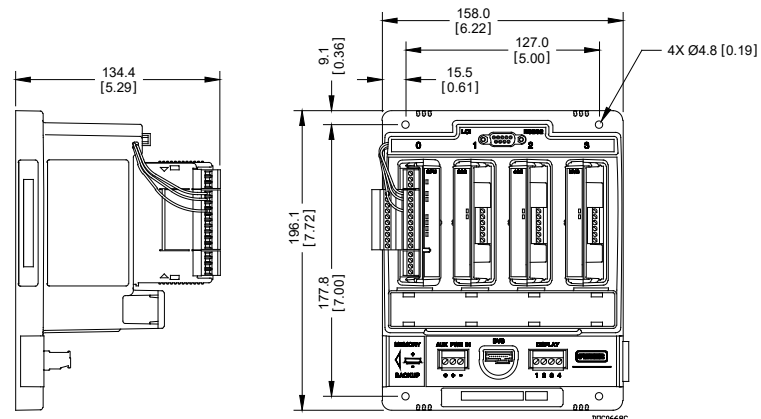

Figure 2. FB107 Dimensions
- **Main unit only.** Position as desired on the enclosure mounting plate and locate mounting holes on the plate using the FB107 as a template. See Figure 2 for FB107 dimensions. Drill and tap mounting holes in the plate with an 8-32 UNC thread tap. Position the FB107 over the tapped locations and